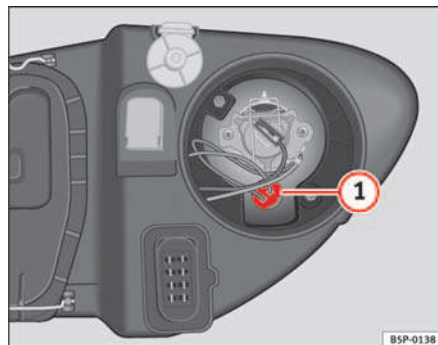

Fig. 180 Side lights
- Extract the lamp holder ⇒ fig. 180 ① outwards.